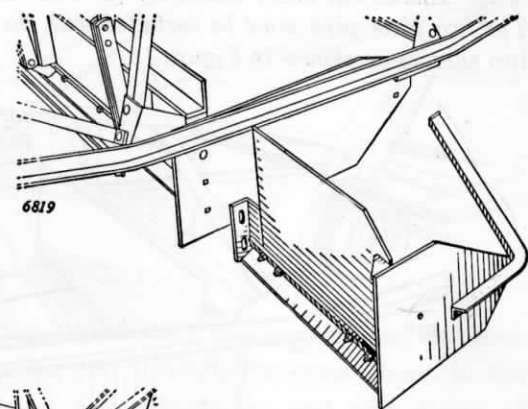

Figure 19—Extensions in Place
4. The blade extensions (Bundles AC3109Y and AC3110Y) may now be bolted on by use of the two lower bolt holes and brace (in box). Bottom edge of blade extensions must line up with main blade (Figure 19). Bolt holes are slotted to permit adjustment. The bolt size is 1/2 x 1-3/4 inches long.